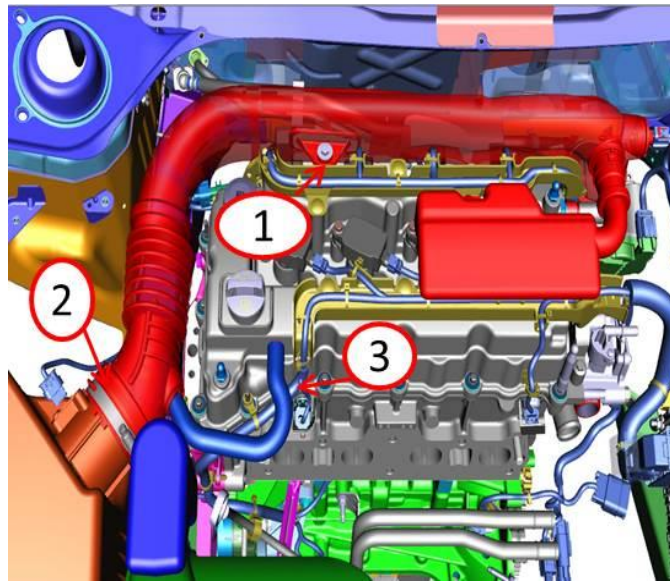

Fig. 3 Resonator
4. Loosen the resonator to throttle body clamp (Fig. 3).
5. Remove the resonator bolt (Fig. 3).
6. Disconnect the rubber hose (Fig. 3).
7. Remove the resonator (Fig. 3).
17. Position the resonator between the forward edge of the cowl and the cylinder head cover. Align the openings with the throttle body intake and the air cleaner flex hose (Fig. 3).
18. Install the bolt. Tighten the bolt to 8 N·m (71 In.Lbs.) (Fig. 3).
19. Tighten the air box hose clamp to 4 N·m (35 In.Lbs.) (Fig. 3).